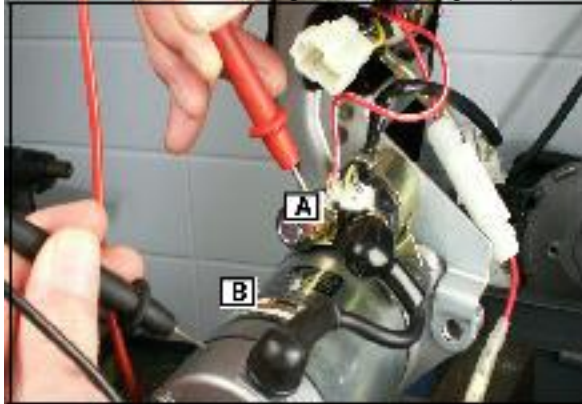

Fig. 57
Check for continuity at the input side (A) of the solenoid and ground ([B] Fig. 57).
DC Shunt #19468 ([D] Fig. 57)